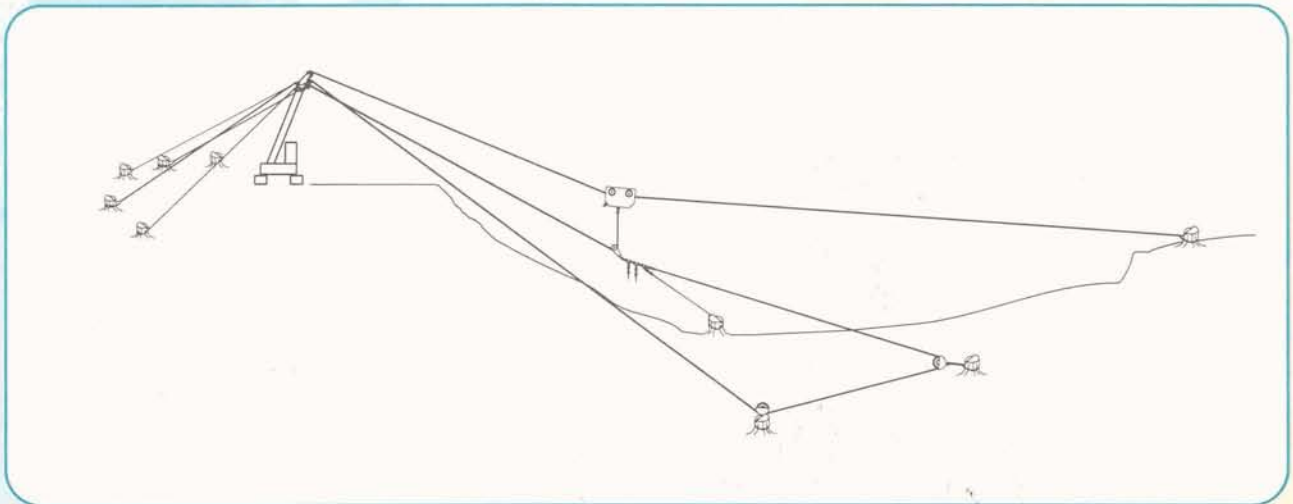

Figure 1 - Setup for the skyline band brake calibration procedure
- At approximately mid-span, strop a large, notched stump (Figure 1).